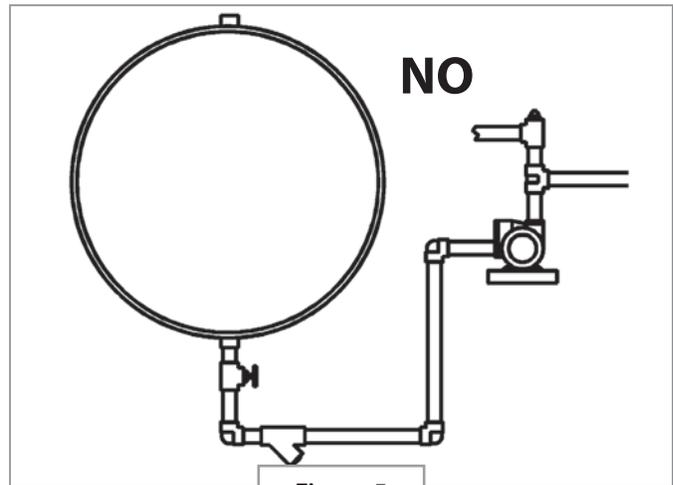

Figure 5
2. The pump should always be at a lower level than the tank's lowest liquid level. Install the pump to eliminate any low spots or loops in piping. **Figure 5**
11. Avoid up-across and down pipe loops where vapors can accumulate. **Figure 5**.